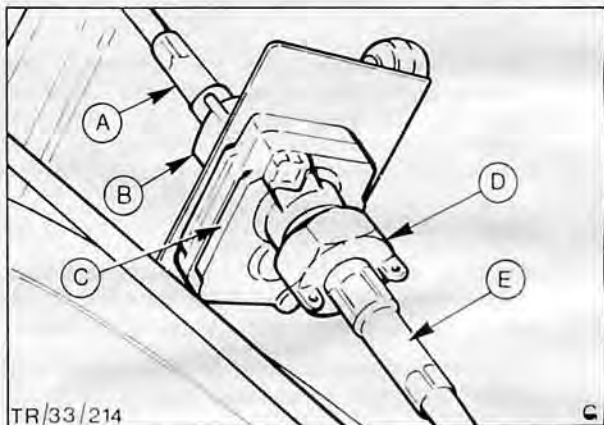

Fig. 26. Calibration box and cables
3. Remove seal (where applicable), unscrew drive cable retaining nut at reduction box and remove upper section of cable from vehicle, Fig. 26.